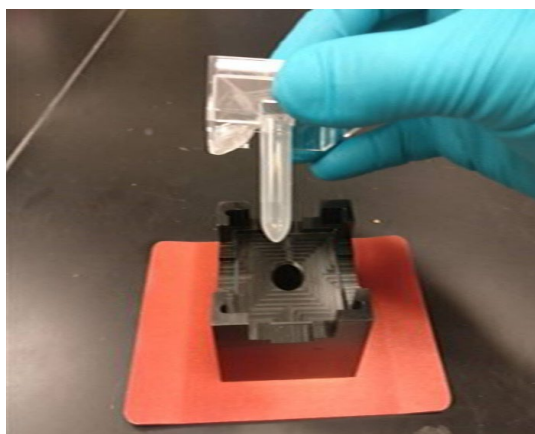

Figure 99. Removing the Collection Tube containing the eluate.
7. Carefully remove the Collection Tube containing the extracted library (Figure 99, below).